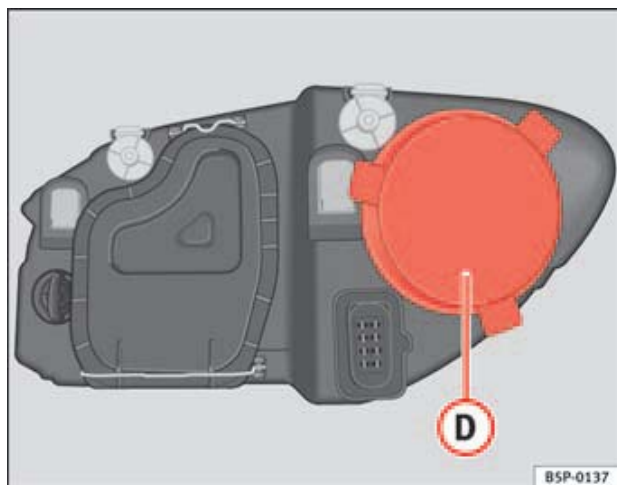

Fig. 168 Side lights
- Remove the cover ⇒ fig. 168 **D** by pulling on this.